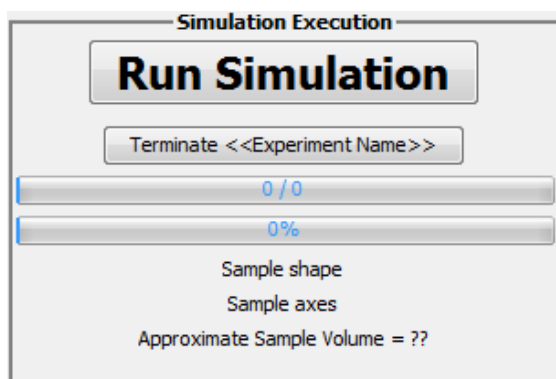

Figure 21. Section of the UI dedicated to updating the user as to the runtime status of the simulation
3.7. Simulation Runtime -- Figure 21